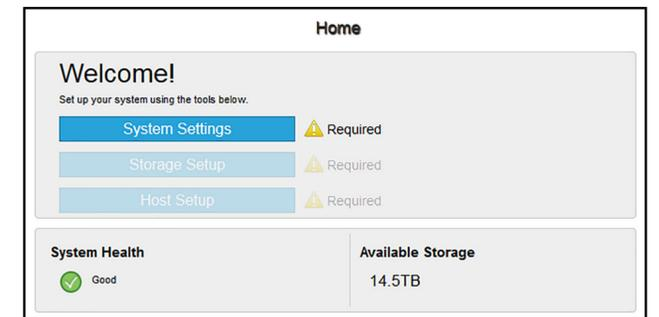

Figure 17. Welcome! screen
4. The **Welcome!** panel is displayed (figure 17).